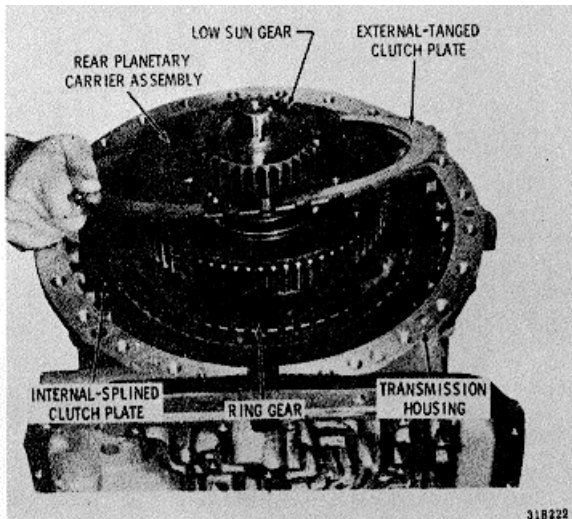

Fig. 5-44. Removing first clutch plates .
(1) Remove one internal-splined and one external-tanged clutch plate (fig. 5-44).
(2) Remove the ring gear (fig. 5-44).
(3) Remove the remaining eleven clutch plates (fig. 5-44).